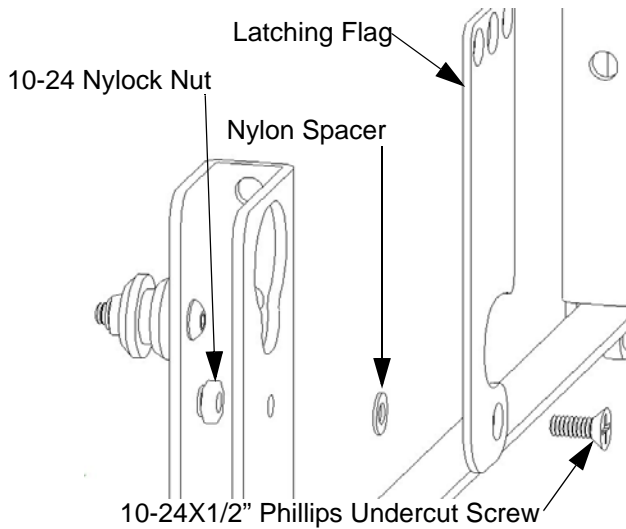

Figure 4. Install Latching Flag
2. Install the latching flag (110) using the 10-24X1/2" Phillips undercut screw (120), Nylon spacer (130) and 10-24 Nylock nut (90) (see Figure 4).